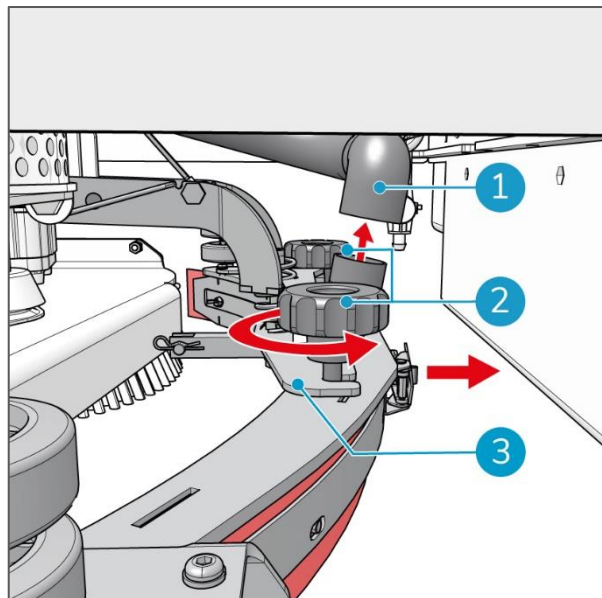

Figure 33
6. Remove the vacuum hose from the hose connector (Figure 33, pos 1).
7. Loosen the two rotary knobs (Figure 33, pos 2).
8. Pull the squeegee body backwards, out of the squeegee lifting plate (Figure 33, pos 3).